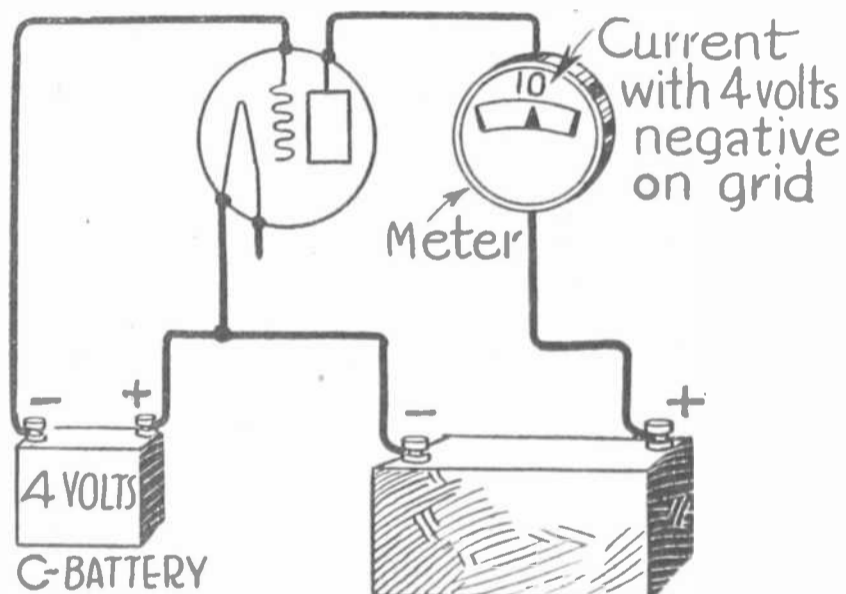
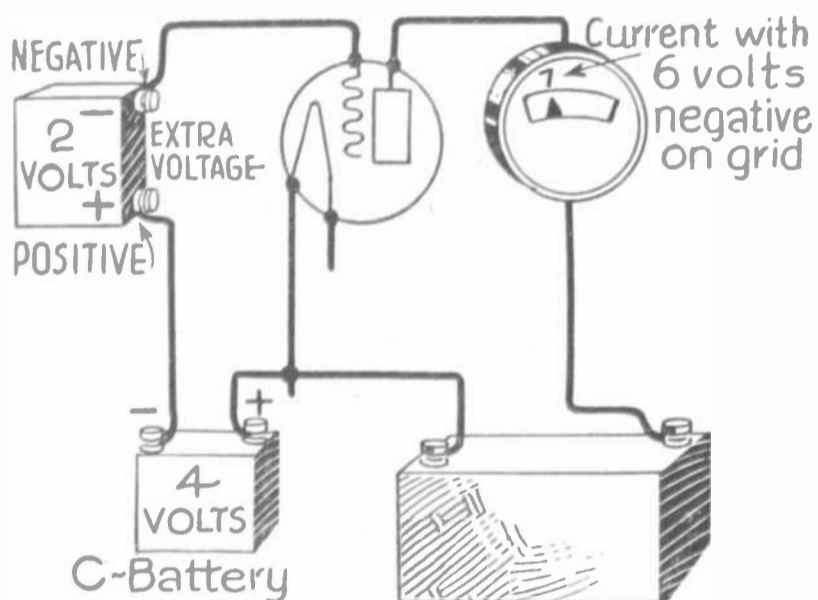
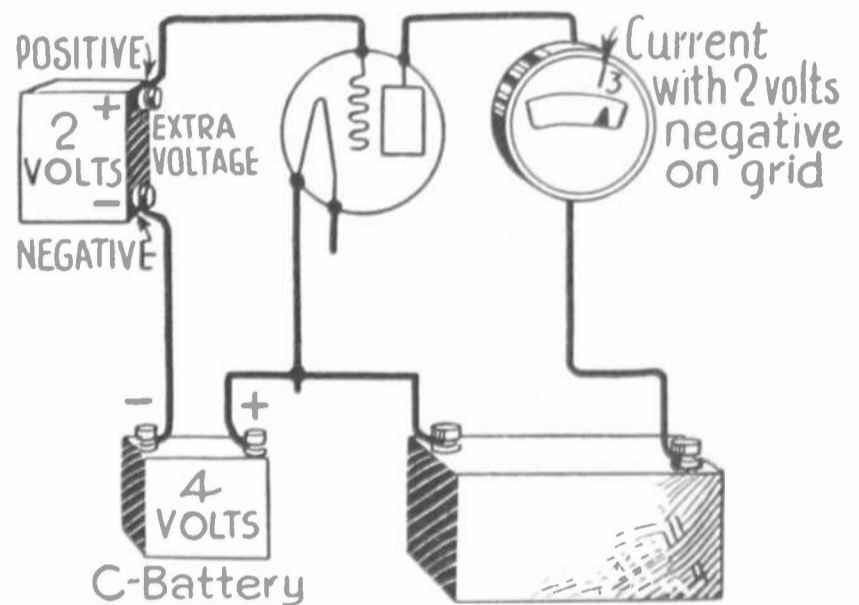
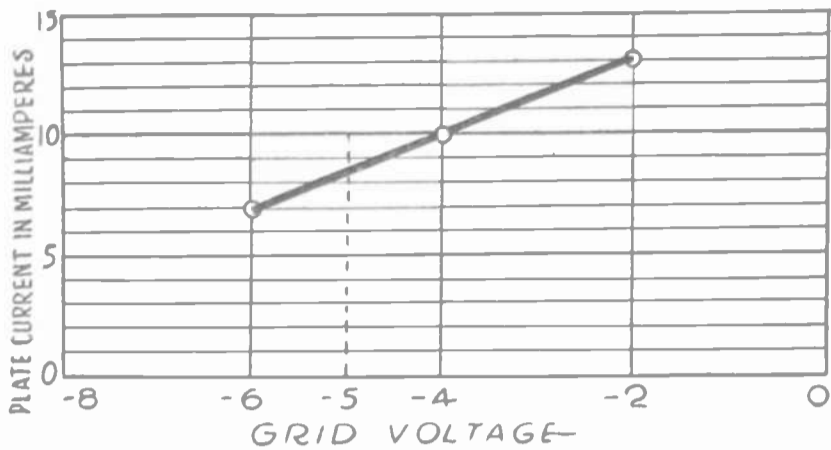

Fig. 21.
Fig. 22.
Fig. 23.
Fig. 27.
In Fig. 21 you will see a tube with a 4-volt C-battery in its grid circuit and with a milliammeter in its plate circuit. We will say that the B-battery voltage applied to the plate is such that the 4-volt negative grid bias allows a current of 10 milliamperes to flow in the plate circuit. The word "milliamperes" is a rather long one so radio men generally speak of "mils" in place. Hereafter, when I say so many mils you will know that I mean that number of milliamperes.
We are going to change the grid's potential by changing the amount of bias. In Fig. 22 you see the same circuit as in Fig. 21 with the addition of another small battery, the one marked "extra voltage." This is a 2-volt battery.
Now look very carefully. In Fig. 22 the grid is connected to the negative terminal of the extra voltage. The grid was 4 volts negative to begin with because of the C-battery. Now we have made the grid still more negative by this extra 2 volts. So the potential of the grid is now 4 volts plus 2 volts, or 6 volts below that of the negative end of the filament. Making the grid more negative allows less flow of plate current and we find that the milliammeter now reads only 7 mils.
Next, look at Fig. 23. We have just the same parts as in Fig. 22 but the small battery giving the extra voltage has been turned end for end. Now the tube's grid is connected to the positive end of this extra voltage. Does that make the grid positive? No, it does not.
From what you have seen in Figs. 22 and 23 it is perfectly evident that any extra voltage applied to the grid circuit will cause the plate current to change in step with all changes in the amount of this extra voltage.
Let's draw a graph telling the story of Figs. 21, 22 and 23. In Fig. 27 the horizontal or crosswise lines indicate the number of milliamperes from zero (0) up to 15. They are equally spaced and divide the vertical lines into 15 equal parts. The vertical or up-and-down lines indicate the number of volts on the grid from zero (0) at the right down to negative 8 or minus 8 at the left. The three circles are placed where the lines cross for grid voltages and plate currents that we know. Then these three circles are joined by a single line which shows the effect of changing grid voltage on the flow of plate current.
In Figs. 21, 22 and 23 we took readings with only three different voltages, with 2 volts, 4 volts and 6 volts negative. Suppose you want to know how many mils will flow with negative five volts on the grid. Look at Fig. 27 where I have drawn a broken line at the 5-volt position. It crosses another imaginary crosswise line at the position for $8\frac{1}{2}$ mils and you can be sure that $8\frac{1}{2}$ mils will flow in the plate circuit when the grid is held at negative 5 volts.